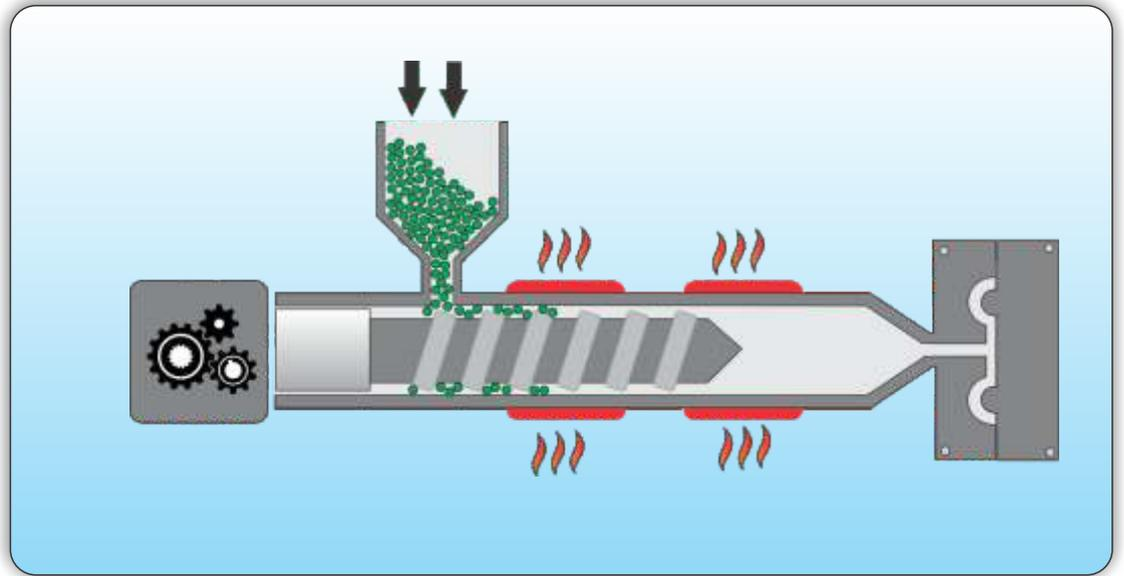

Figure 2.7 Step 1 of extrusion process
- 1** Plastic granules are fed into the barrel via a hopper and heated to a molten condition (Figure 2.7).
- 2** Plastic granules are fed into the barrel via a hopper and heated to a molten condition (Figure 2.7).